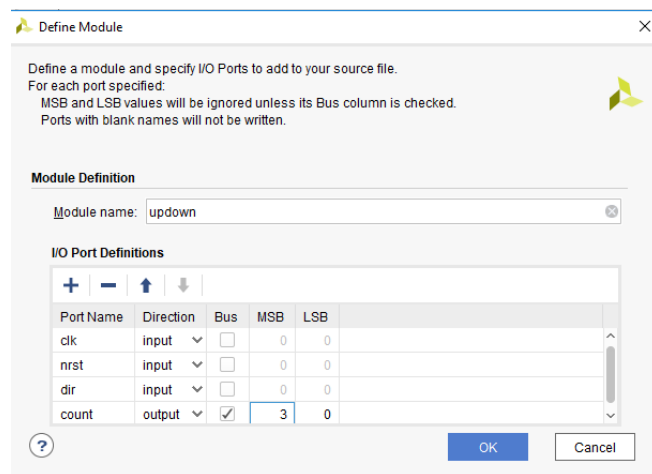

Figure 15: Port declaration for the updown module
- The next step is to define the input and output ports of our module. Add single bit ports clk, nrst, and dir as inputs. For the output port, add a port named count with the bus option enabled, and set the most significant bit (MSB) to 3 and the least significant bit (LSB) to 0. Fig. 15 shows the port declaration for the updown module. Note that you can still modify the module's ports after creating the source file. This step just allows Vivado to auto-generate the port declaration part of the source code. Click "OK" to continue.